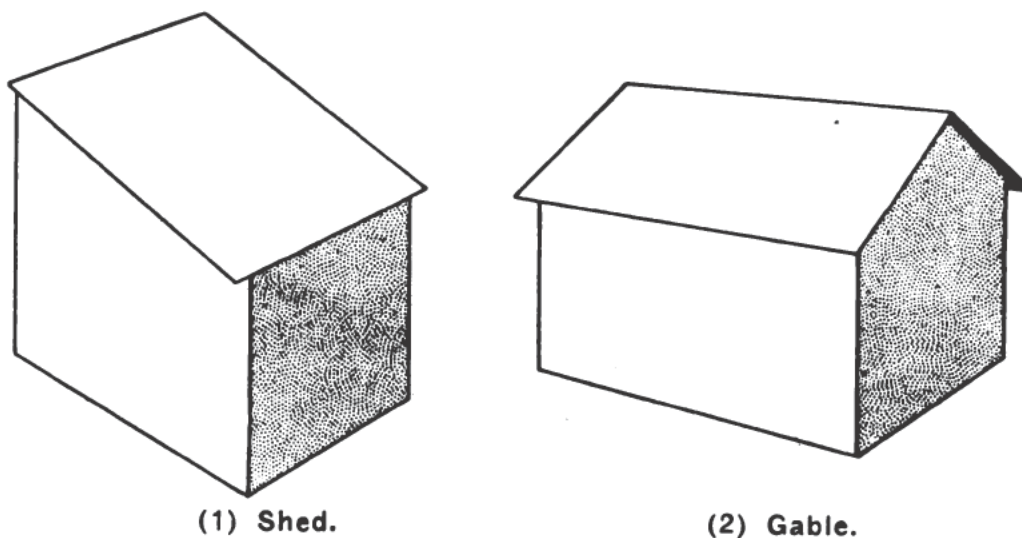

Figure 13-22.—Types of roofs.
The SHED or SINGLE PITCH roof is for emergency construction, when sheds or additions to buildings are built. The pitch is in one direction only, as shown in figure 13-22 (1).
The DOUBLE PITCH or GABLE roof consists of a sloping surface on each side of the center line of the building which forms a ridge in the middle. You should be well acquainted with this type of roof (figure 13-22 (2)) as it may be used on any type of structure. Also, the gable roof is simple in design and economical. Therefore, it is the one most commonly used in naval construction. Before you get enough "know how" to construct, maintain and repair roofs, you'll need to be familiar with all the terms used in connection with roofs. These terms are: